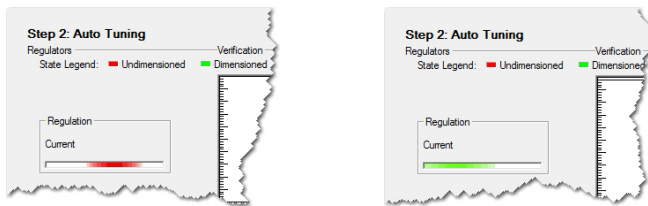

Figure 3-34 Regulation Tuning – Identification (left) / Verification (right)
- First, control parameters will be identified – during this process, the motor shaft will oscillate, the respective red status bar will be moving (→ Figure 3-34, left).
- Then, identified control parameters will be verified by evaluating their step response – during this process, the motor shaft will oscillate, the respective green status bar will be moving (→ Figure 3-34, right).